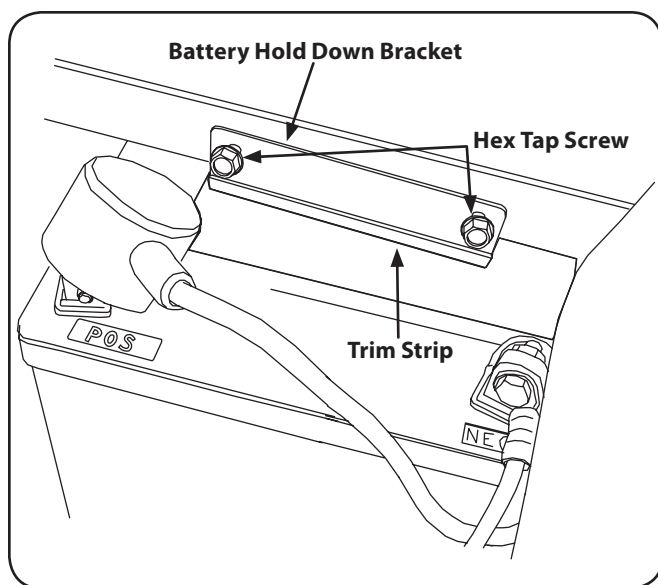

Figure 7-1
1. Remove the two hex tapping screws from the battery hold-down bracket and remove the bracket. Use care to avoid losing the trim strip from the bottom of the bracket. See Fig. 7-1.